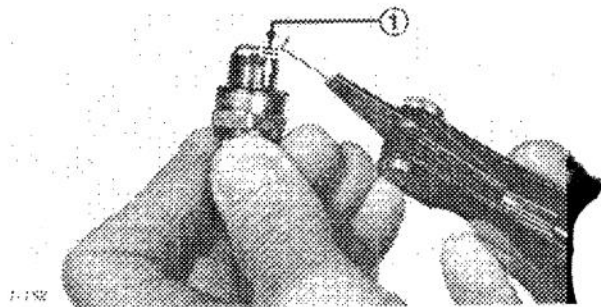

Figure 34
4. Set air gap between center and side electrodes at 0.024 to 0.028 of an inch (0.6 to 0.7 mm) (Fig. 34). Install correctly gapped spark plug w/gasket seal, and tighten plug to 130 - 165 in. - lb (14.7 - 18.6 N·m). If torque wrench is not used, tighten plug firmly.